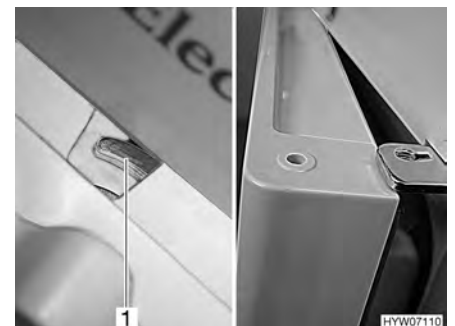

Fig. 145 Refrigerator door/freezer compartment door in ventilation position (Dometic 7 series with separate freezer compartment)
- Push the lock completely to the right. The door latch (Fig. 145,1) keeps the refrigerator door/freezer compartment door in a fixed position. The refrigerator door/freezer compartment door will then stay slightly open (Fig. 145).